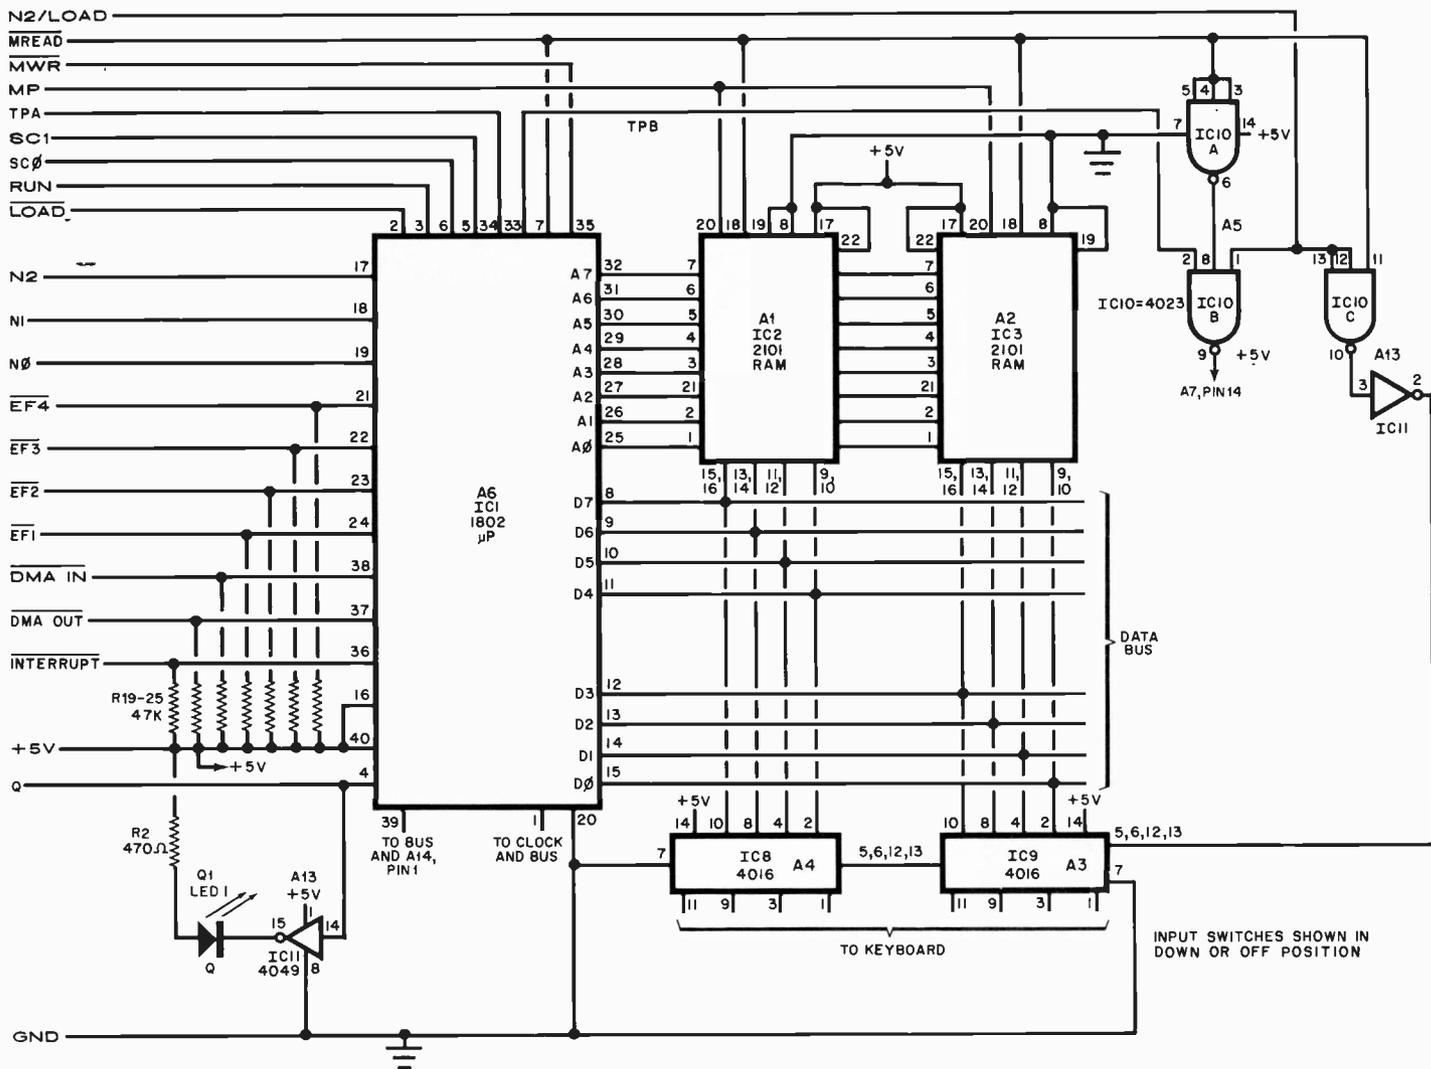
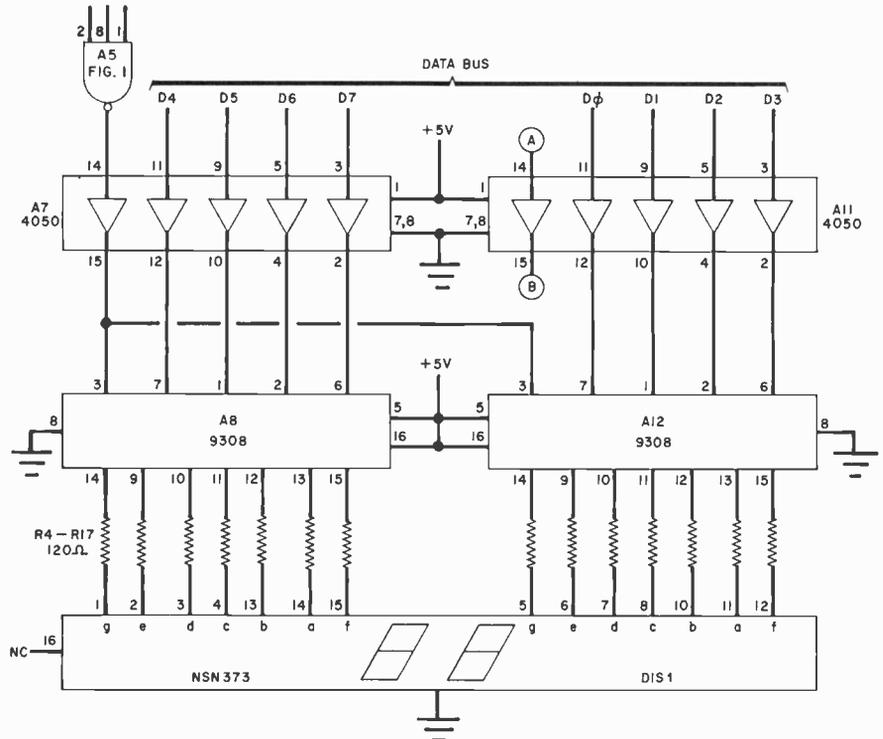

Fig. 1. The basic Elf circuit is modified as shown here. Note that the IC's are now A-prefixed, and the passive components are renumbered.
Fig. 3. A pair of 7-segment LED readouts working with a pair of decoder/latch/driver IC's form the low cost hex display.
**The Basic Elf.** The basic computer circuit shown in Fig. 1, and the graphics interface shown in Fig. 2 are essentially the same as the original Elf's.
Whereas the original Elf used a pair of relatively expensive hexadecimal decoders/latch/readouts to monitor the data lines, Elf II uses a pair of conventional 7-segment LED displays to do the same thing. Besides the saving in cost, the only difference between the two approaches is that in the Elf-II method, lower-case 'b' and 'd' are used instead of capital letters. However, these cannot be mistaken for any other alphanumeric character. The new circuit is shown in Fig. 3. Integrated circuits A8 and A12 accept the digital information from the data bus—buffered by A7 and A11—and convert this data to drive the common-cathode 7-segment LED readouts forming *DIS1*. Besides the data information, this circuit also accepts the strobe signal coming from A5 of Fig. 1 (the original IC10, pin 9).